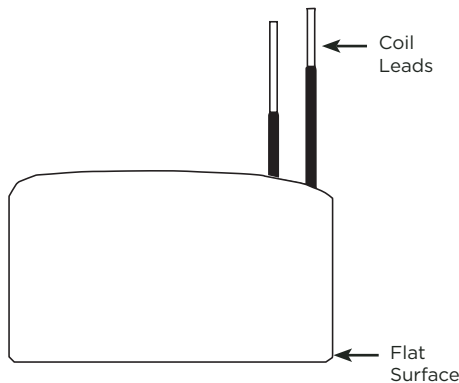

Figure 5: Coil and Core Assembly
6. Lay down the magnet case cover and coil assembly with the flat surface of the coil downward. See Figure 5.
7. Remove the four hex-head cap screws (2) in the center of the magnet case cover. Remove the terminal shield (4) and the magnet case cover.
10. Place the new coil and coil core so that the back of the coil is horizontal, with the coil leads extending vertically. See Figure 5.
12. Replace the terminal shield (4) and secure with four hex-head cap screws (2).
14. Using eight hex-head cap screws (2), replace the magnet case cover and the coil assembly into the magnet case.